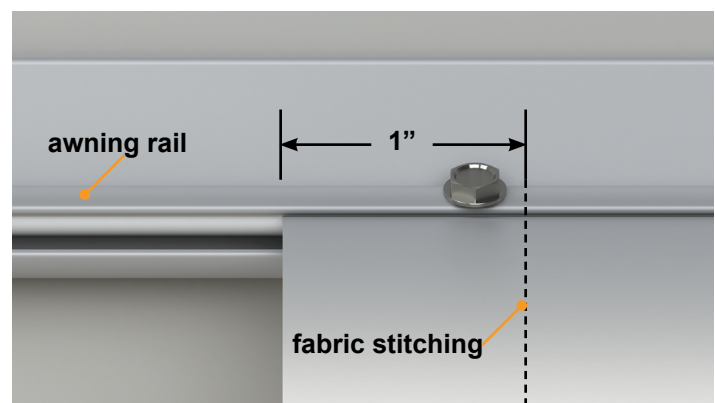

Fig.8
2. On both ends, secure the fabric in the awning rail no more than 1" inside the edge of the fabric using a #6 x ½" hex head screw (**Fig.8**).